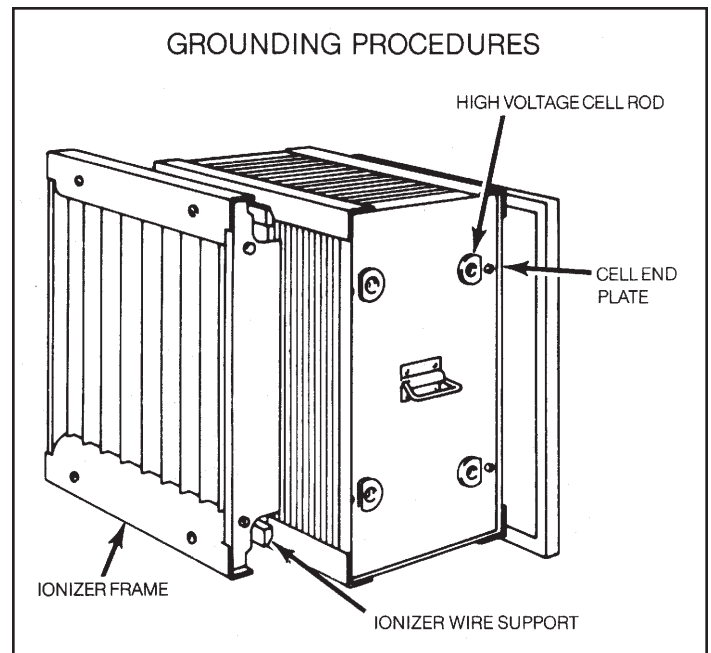

FIGURE 2
- For added safety, manually discharge the ionizer and cell in the following manner: Place the blade of a common screwdriver (with insulated handle) across the ionizer wire support and ionizer frame. Next, place the screwdriver blade across high voltage cell rod and cell end plate. This will remove any residual charge that may not have bled off. See Figure 2.